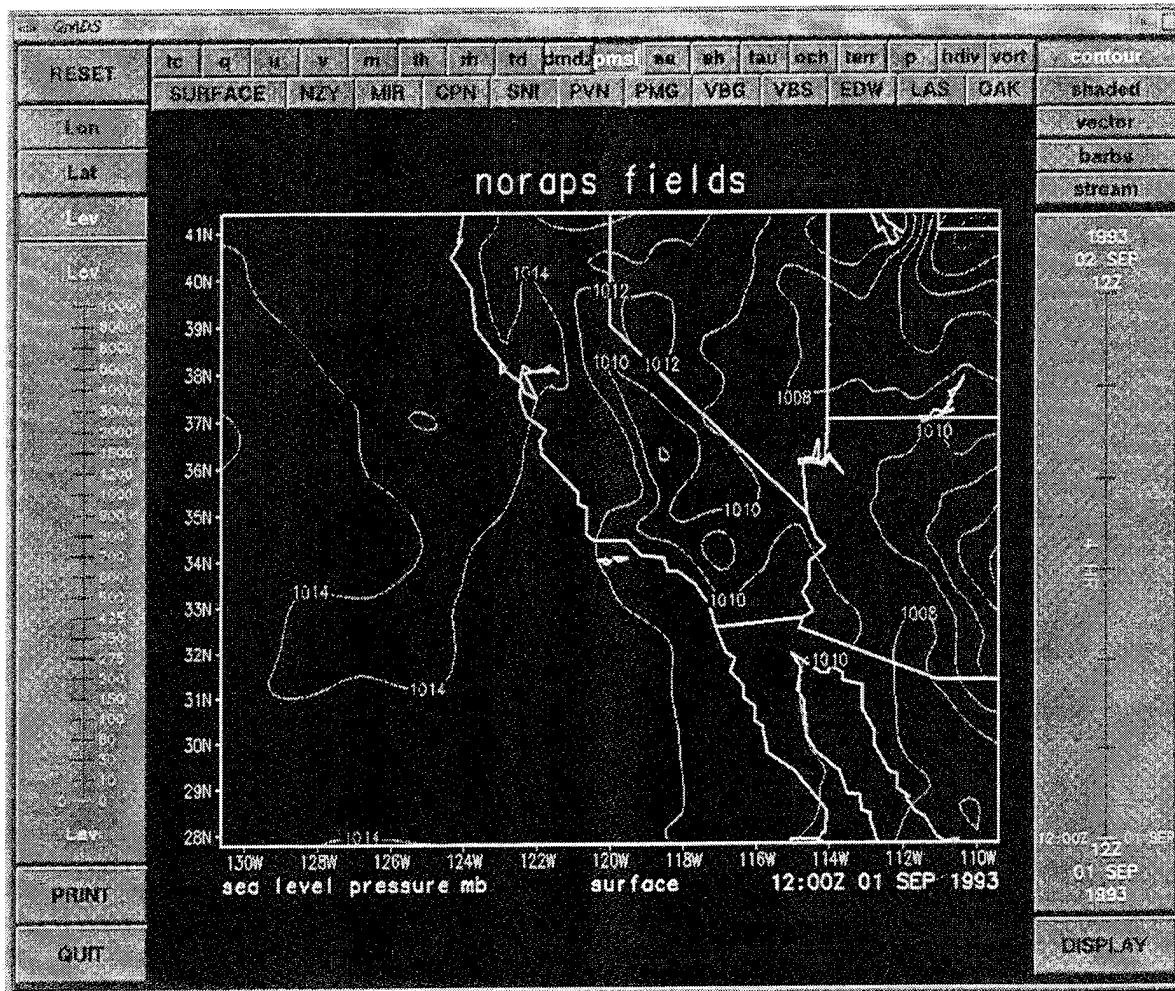
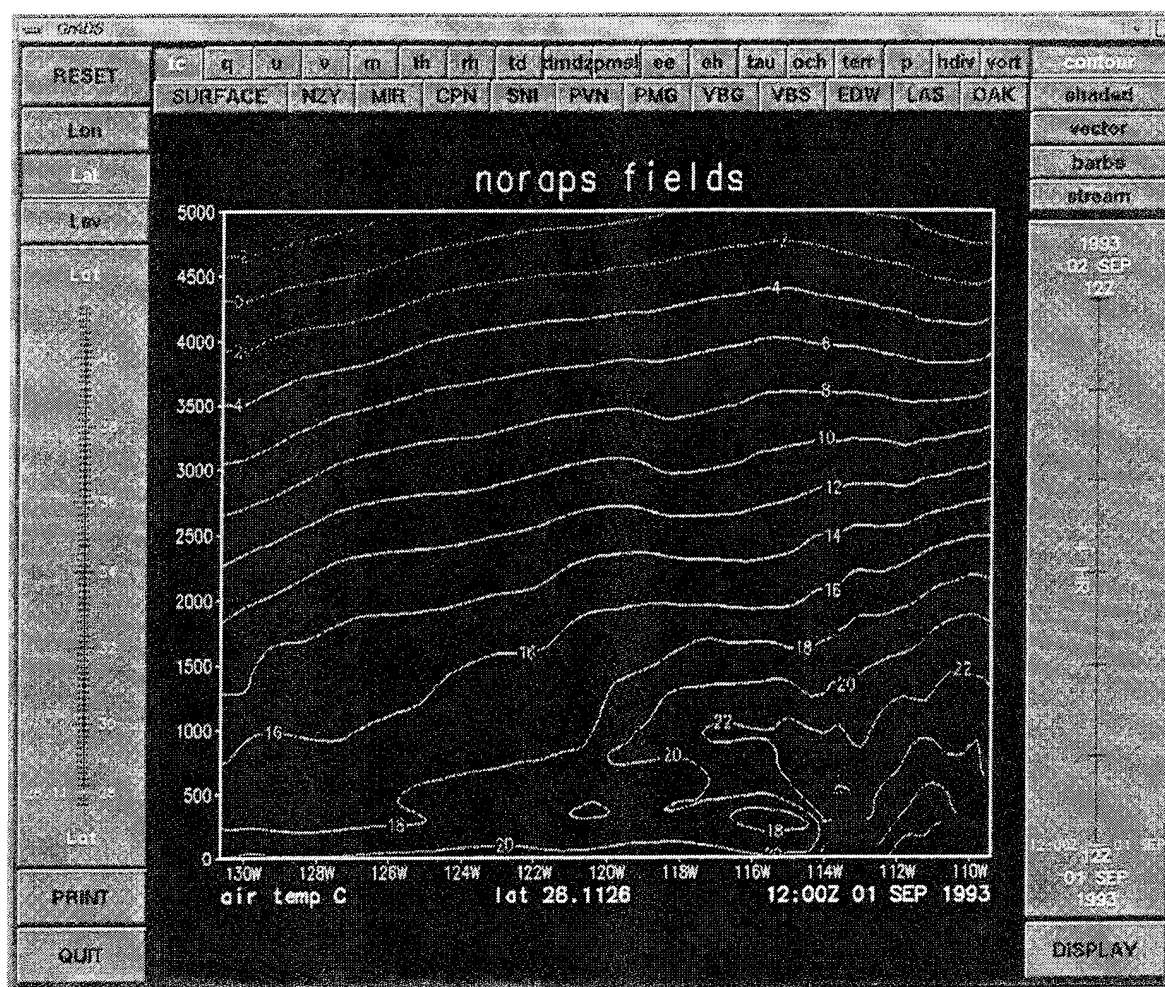

Figure 2. Initial pressure display (when data present).
Figure 9. Typical Z-X vertical cross section
4.2 Variable Selection. Variables can be "toggled" off and on by placing the mouse cursor on the desired variable's button and by clicking the left or middle mouse button. Also, the browser will start automatically with sea level pressure or surface pressure displayed (Fig. 2), if present in the data set, to provide an initial orientation to the meteorological conditions existing at the first time step.
- Two dimensions are varying, but time is fixed (Fig. 2). Map plots with coast lines and political boundaries are displayed if level is fixed. Vertical cross sections are displayed along the selected latitude (longitude), if latitude (longitude) is fixed (Fig. 9).